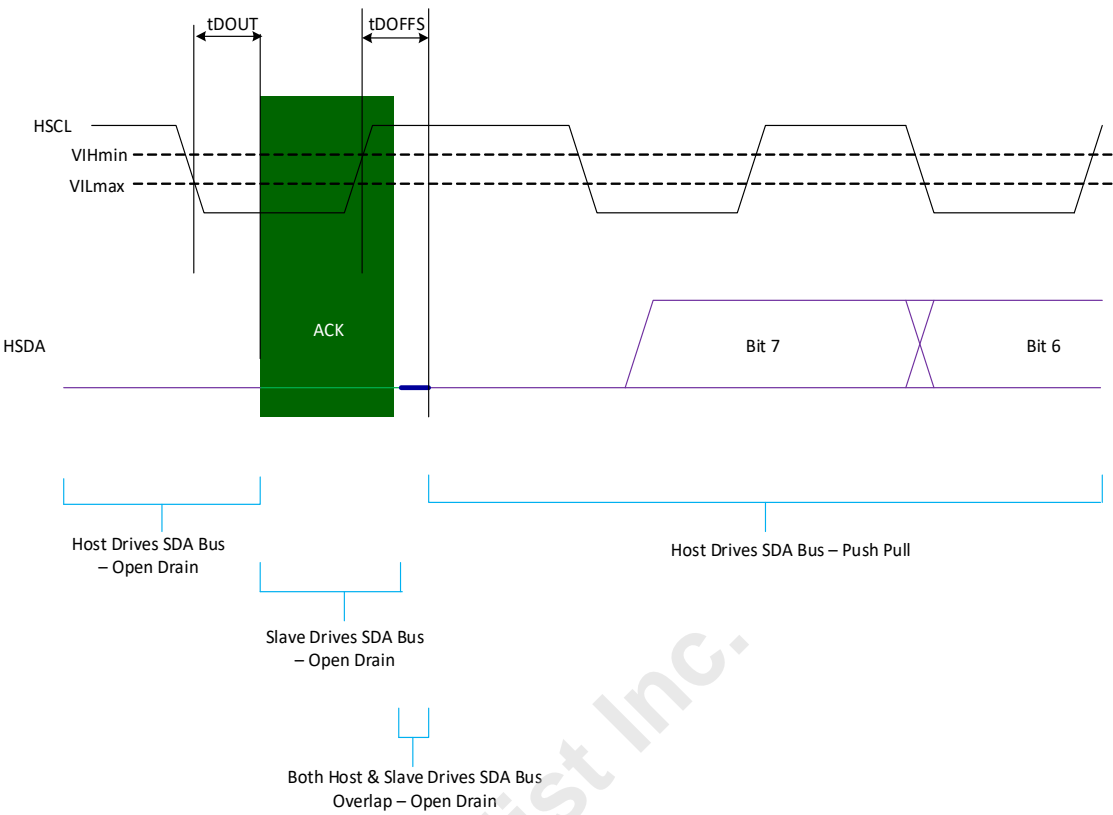
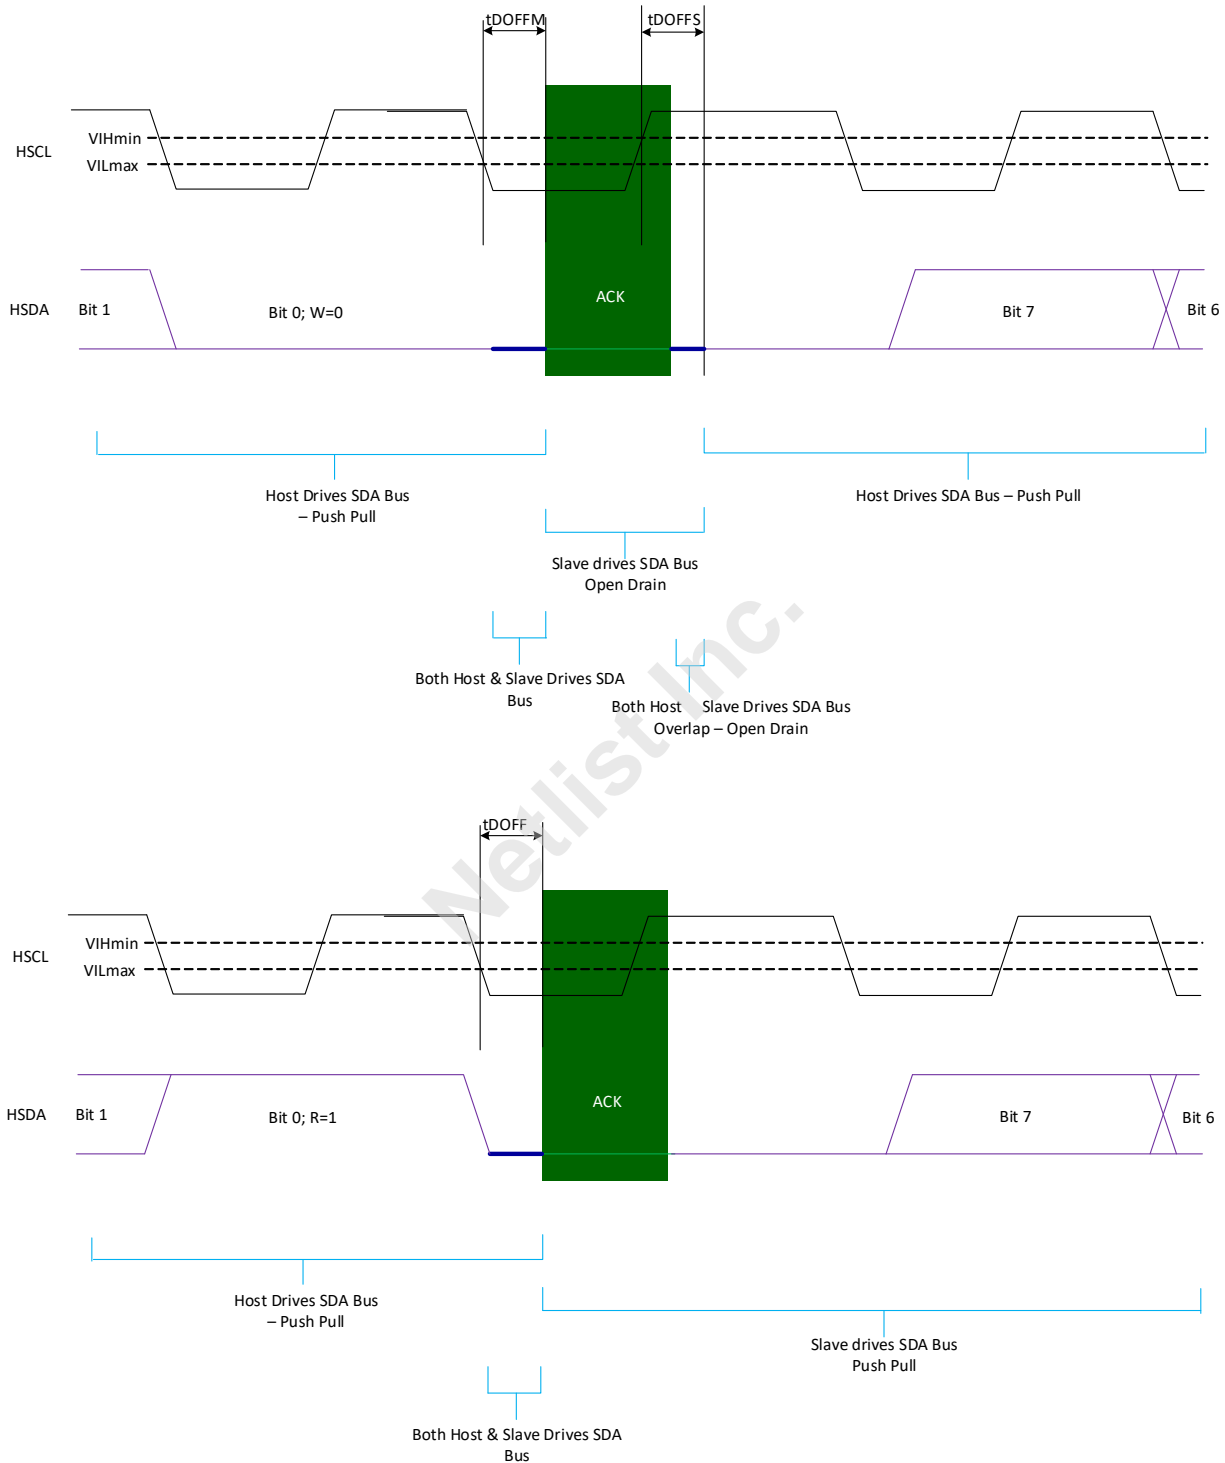

Figure 18 — Slave Open Drain to Host Push Pull Hand Off Operation
Figure 20 — Host Push Pull to Slave Open Drain Hand Off Operation
1. See Figure 18 to see how the transition occurs from Slave Open Drain (ACK) to Host Push Pull Operation (1st bit of Addr, bit [7]).
5. See Figure 20 to see how the transition occurs from Host Push Pull Operation to Slave Open Drain (ACK).
3. See Figure 20 to see how the transition occurs from Host Push Pull Operation to Slave Open Drain (ACK) and See Figure 18 to see how the transition occurs from Slave Open Drain (ACK) to Host Push Pull Operation (1st bit of Addr, bit [7]).
1. See Figure 18 to see how the transition occurs from Slave Open Drain (ACK) to Host Push Pull Operation (Repeat Start).
3. See Figure 20 to see how the transition occurs from Host Push Pull Operation to Slave Open Drain (ACK).